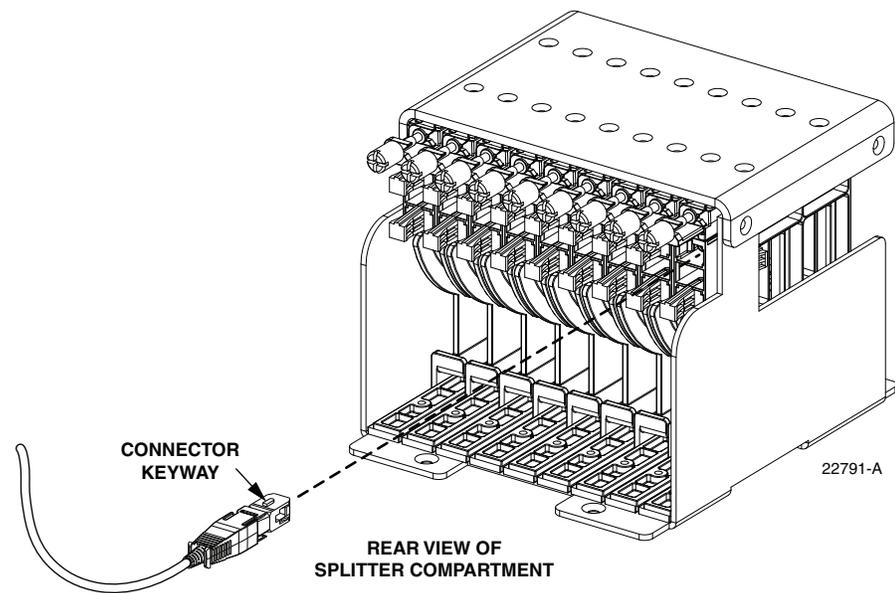

Figure 11. Feeder Cable Connector
3. Remove the corresponding feeder cable connector(s) from the rear of the splitter compartment as shown in Figure 11.
3. Remove the feeder cable connector(s) from the rear of the splitter compartment (see Figure 11).